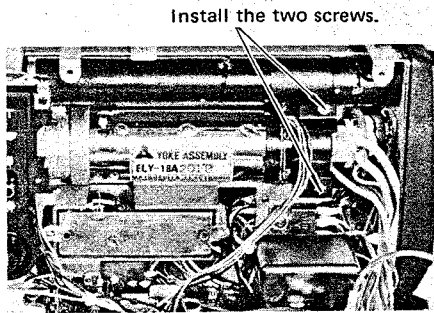

Fig. 3-14
- Secure the deflection coil holder by installing the two screws (Fig. 3-14) while holding it to the chassis.